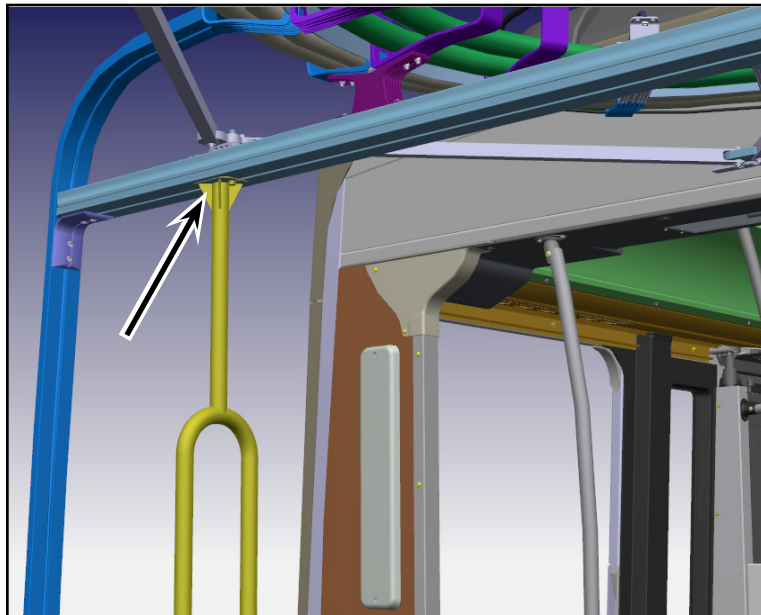

Figure 9 - Unbolt Each Handrail From the Guiding Profile
- 1.13. Unbolt each handrail from the guiding profile. See Figure 9.
- 1.16. Bolt the stanchions under the guiding profile. See Figure 9. It might be required to adjust the height of the stanchions.